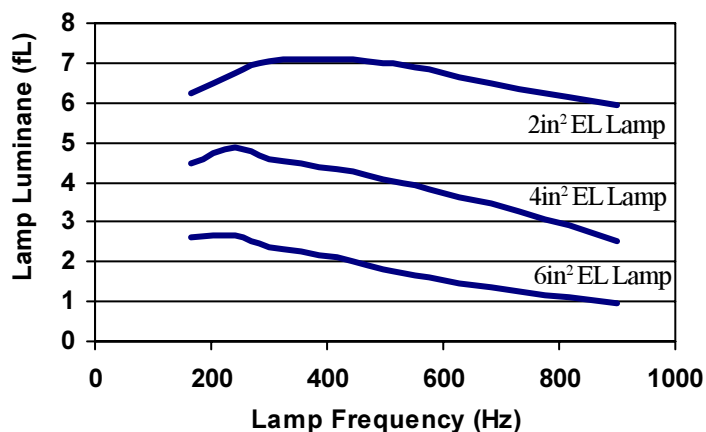

Figure 2: Typical Lamp Luminance vs. Lamp Frequency
The selection of the CLF value can also affect the brightness of the EL lamp because of its control of the lamp frequency (LF). Although input voltage and lamp size can change EL lamp frequency as well, LF mainly depends on the CLF value selected or the frequency of the input clock signal to CLF. The luminance of various sizes of Durel 3 Blue-green EL lamp driven by a D356B at  $V^+ = 3.0V$  using the same inductor value is shown in Figure 2 with respect to lamp frequency.